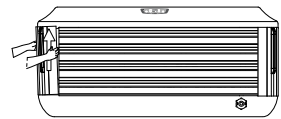

Figure 3
2. Grab the bottom of the front panel and slightly lift to release it from the top mount. Tilt the panel and pull down to remove, Figure 3. Place the panel in a safe location to prevent from damaging it.